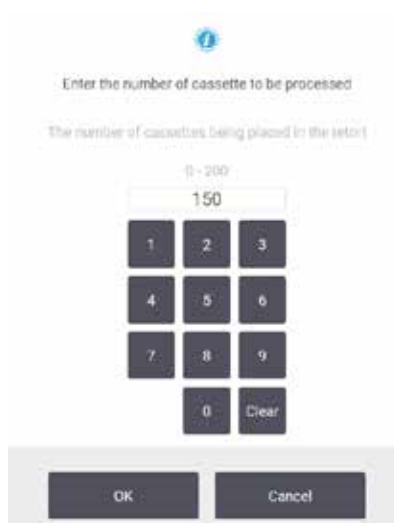

Fig. 40
10. A dialog box (→ Fig. 40) appears for you to enter the number of cassettes that are in the retort.